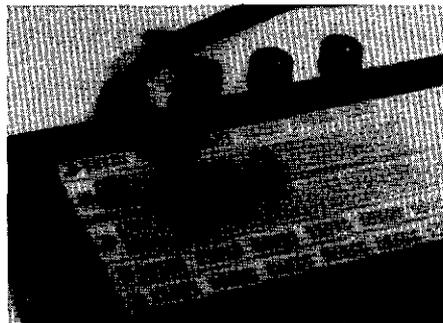

Fig 17—W8FRB uses a DIP socket to prolong the life of his plug-in breadboards.
□ Fig 17 shows an inexpensive DIP socket used to preserve the holes of a plug-in breadboard fixture. I have found that heavy use weakens the contact clips in such boards. (Some of my older boards no longer grip wire smaller than no. 16 AWG.) An inexpensive DIP socket protects the expensive plugboard from excessive wear. When the socket no longer provides good contact, simply replace it with a new one.—*David Polen, W8FRB, Canton, Ohio*